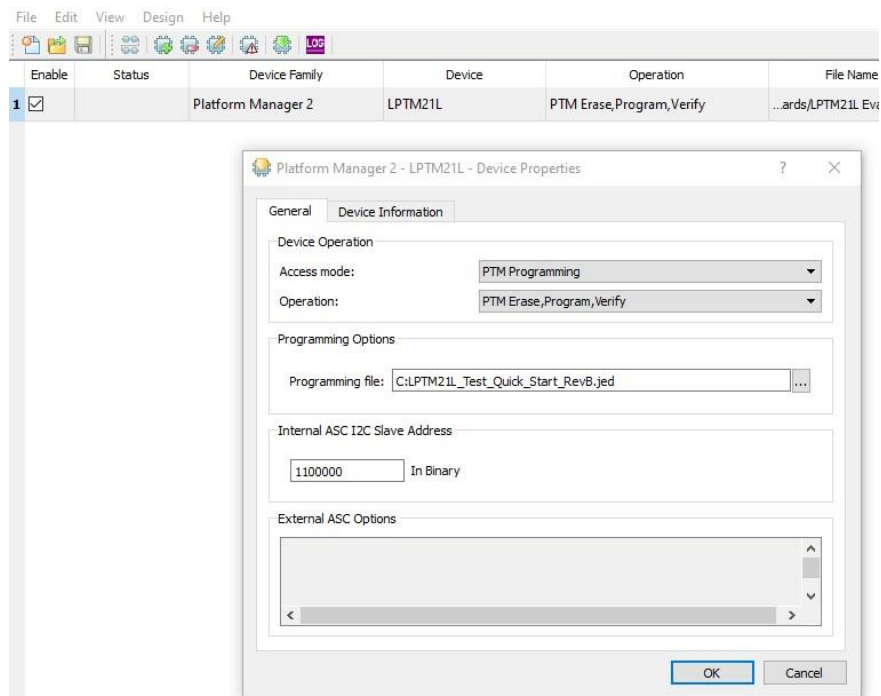

Figure 3.2. Diamond Programmer Device Properties
5. The **Device Properties** dialog box opens as shown in Figure 3.2. Browse to the folder where the **LPTM21L_Test_Quick_Start_RevB.jed** file is located and click **OK**.